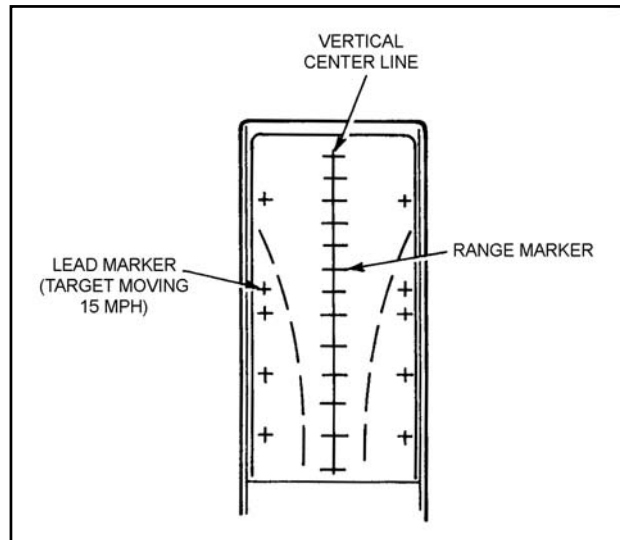

Figure 2-9. Front sight, M72A2 and M72A3 LAWS.
a. **Front Sight, M72A2 and M72A3 LAWs.** The front sight has a raised vertical range line marked with ranges from 50 to 350 meters in 25-meter increments (Figure 2-9). Two curved stadia lines are etched on the front sights. Do not use the stadia lines on this sight to estimate range, because they are inaccurate. Lead indicators are located on either side of the stadia lines to help you engage moving targets. On the M72A3, use the front sight illuminated range marks at the 100-meter and 150-meter points to help you engage targets in low light.